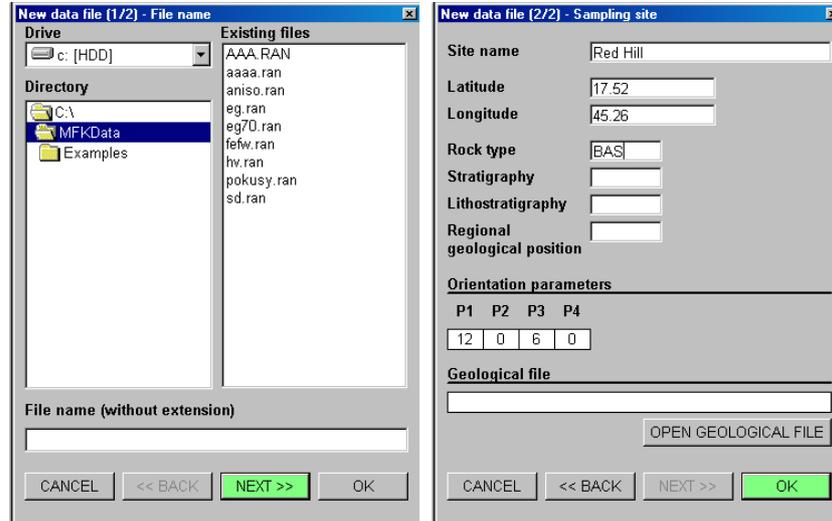

Figure 17: Left - window for creating a new file, Right - window for inputting the sampling site informations.
- Creating a new data file.** To create a new data file go to the main menu: *File|New file* (Ctrl+N). In the **New data file** window fill the file name and choose its directory (Fig. 17). After clicking on the NEXT button the sampling site window is activated where you can input a file header containing the information about the sampling site (Fig 17). Alternatively, you can read this information from the so-called geological file (extension *.ged)⁶. To open a geological file press the OPEN GEOLOGICAL FILE button, select the desired file; sampling site information will be copied into the **Sampling site** window. New file is created by pressing OK.